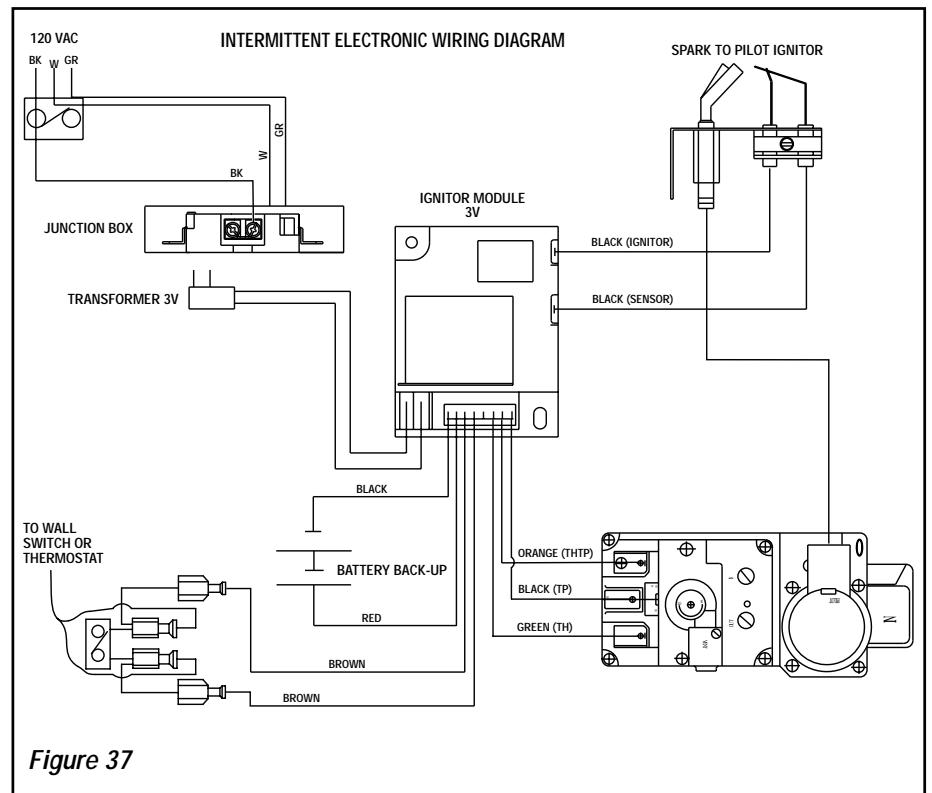

Figure 37
B. Electronic Wiring (See Figure 37) –
4. Connect the black power supply wire to the lower outlet's red pigtail lead and the white power supply wire to the common terminal of the outlet as shown in Figure 37.
8. If an optional control is to be used, wire it in the low voltage circuit as shown in Figure 37.
IMPORTANT: Ground supply lead must be connected to the wire attached to the green ground screw located on the outlet box. See *Figure 37*. Failure to do so will result in a potential safety hazard. The appliance must be electrically grounded in accordance with local codes or, in the absence of local codes, the National Electrical Code, ANSI/NFPA 70- (latest edition). (In Canada, the current CSA C22-1 Canadian Electrical Code.)